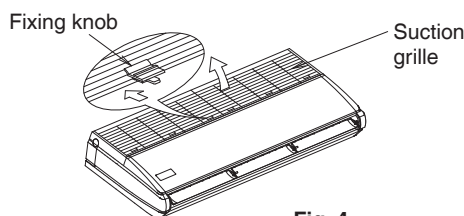

Fig. 4
- Slide the suction grille fixing knobs (32 type: 2 places for each, 63, 100 type: 3 places for each) toward backward direction (as shown by an arrow) to open the suction grille widely. **(Refer to Fig. 4)**